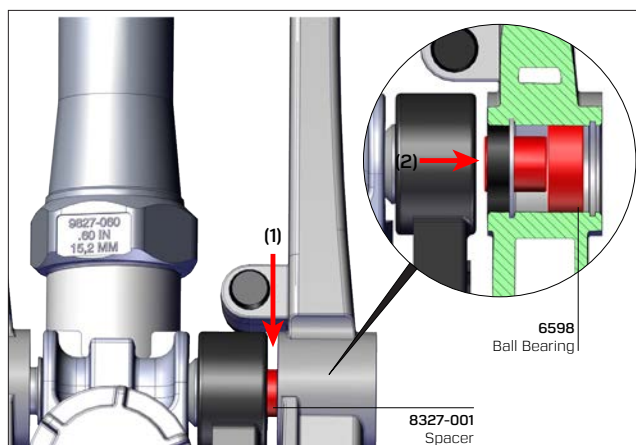

Fig. 3.
- E. Insert blade of screwdriver between right drive arm bearing hub and counterweight bearing hub as shown by arrow (1) in Fig. 3. Work blade against #**8327-001** spacer, and slide spacer and #**6598** ball bearing in direction indicated by arrow (2) in Fig. 3.